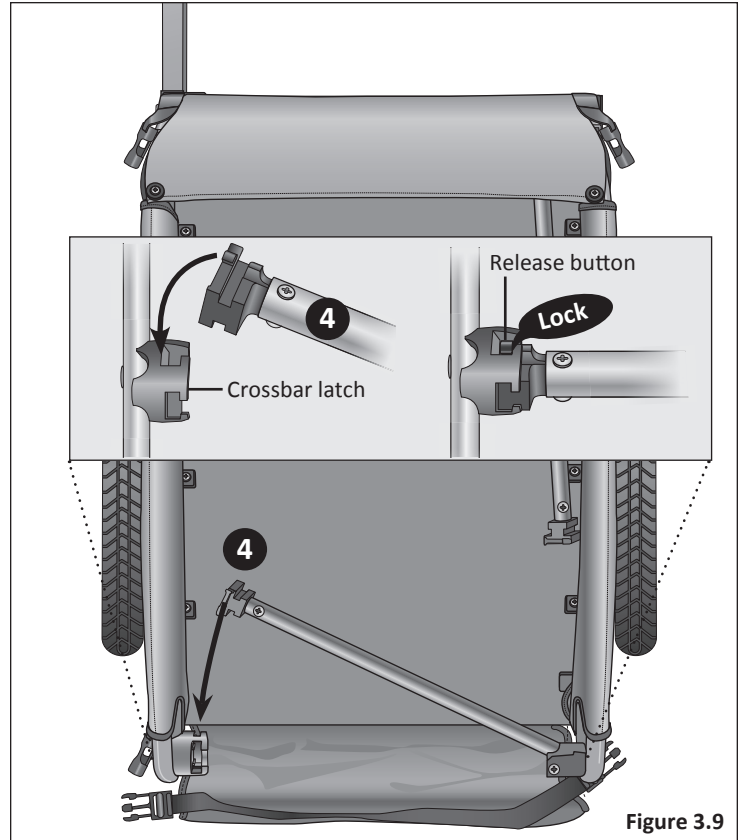

Figure 3.7
- 2 Lift the **Right** side wall up into a vertical position. **Figure 3.7**